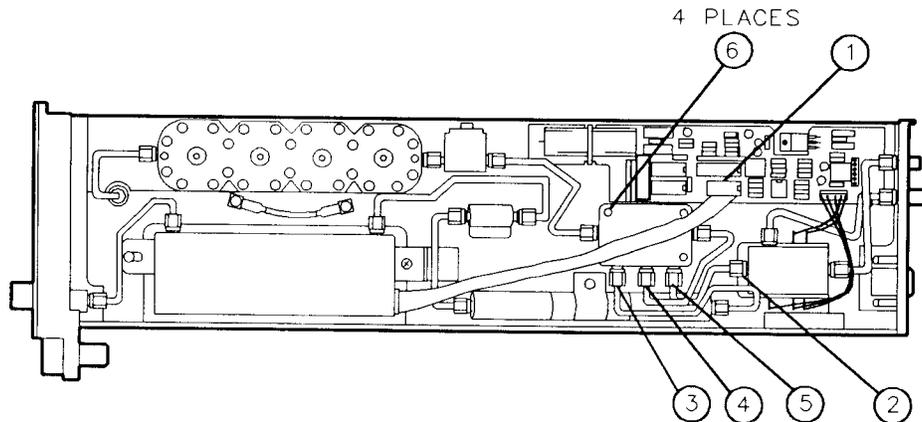

Figure 6-10. A11 First Converter Replacement
3. Disconnect the A8W1 cable assembly (not shown) from J1 of the A1 Miscellaneous Bias board assembly (1). See Figure 6-10.
4. Loosen the SMA connector of W16 one turn from the LO OUT port of the A12 Leveling Amplifier (2).
5. Remove semirigid cables W17 (3), W6 (4), and W16 (5) from the A11 First Converter.
6. Remove the four first converter screws (6).